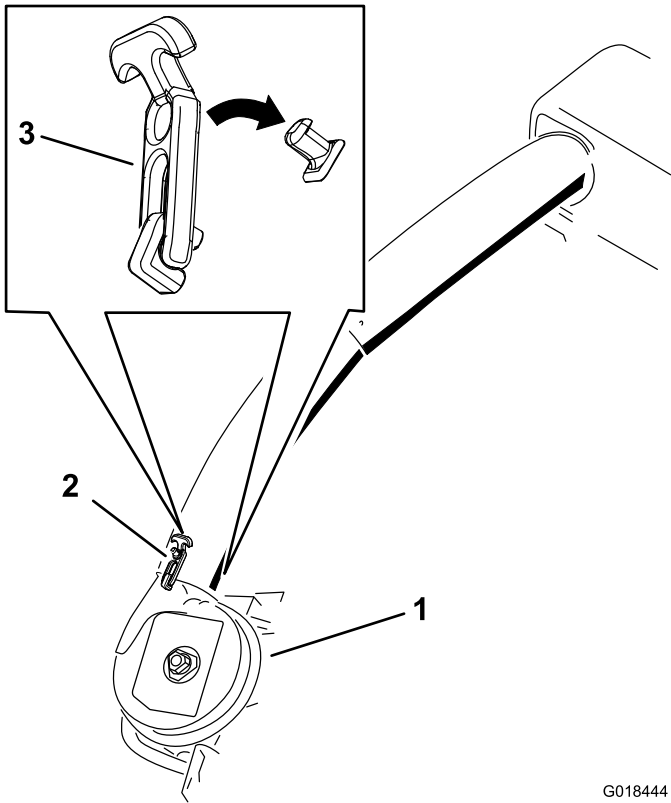

Figure 29
5. Use both latches to attach the lower tube to the blower assembly (Figure 29).
20. Use both latches to attach the lower tube to the blower assembly (Figure 29).